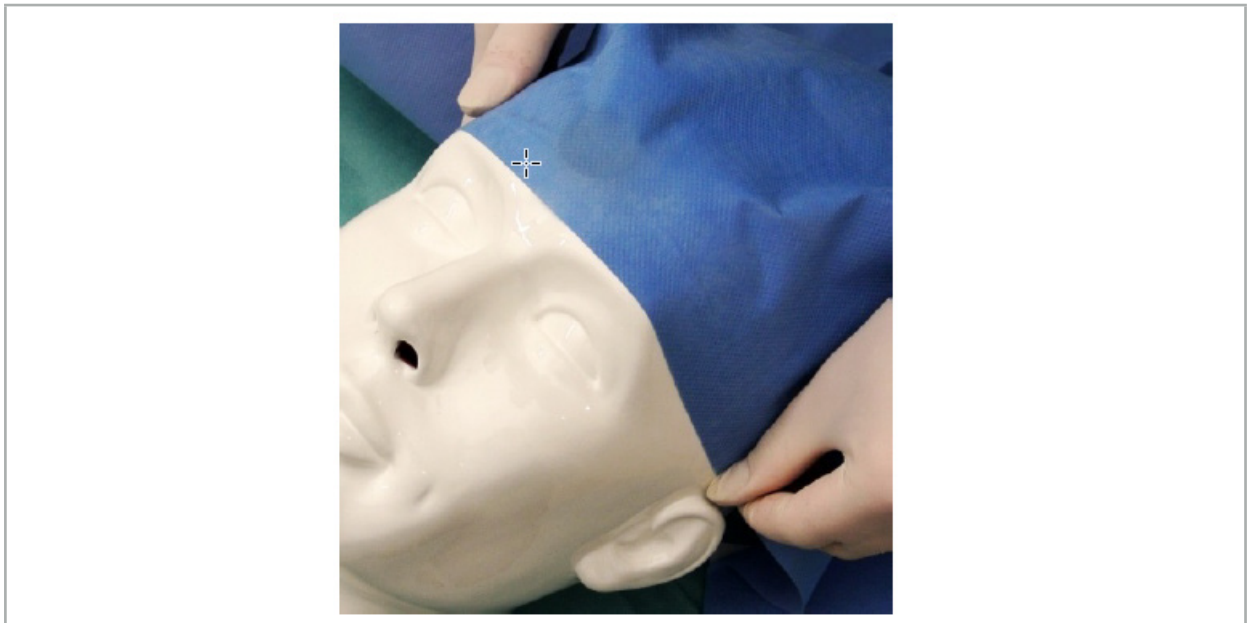

Figure 44 – Cover Patient Tracker
5. If the calibration area is not needed, the Patient Tracker can be fixed in place with medical adhesive tape and then covered with a surgical drape (Figure 44).